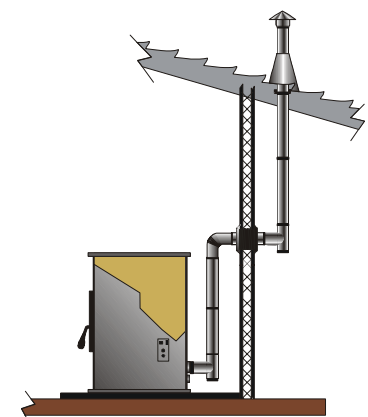

Figure 24
- 🔥 **HORIZONTAL, OUT THE WALL, THEN VERTICAL THROUGH THE EAVES**, then the roof, terminating with a rain cap. Figure 24.